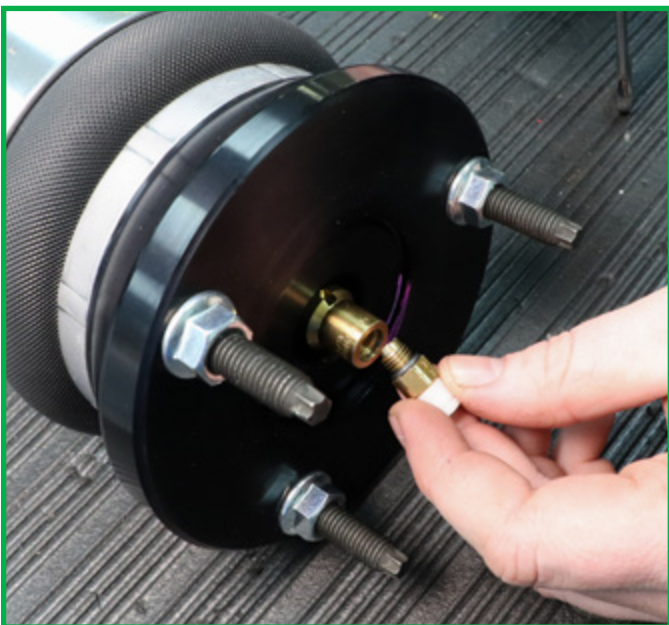

FIGURE 20
1. Install the VOSS fitting from the provided accessory kit on to the new Arnott air strut and snug tight with a wrench. Remove the shipping pin. (Figures 20, 21, 22)